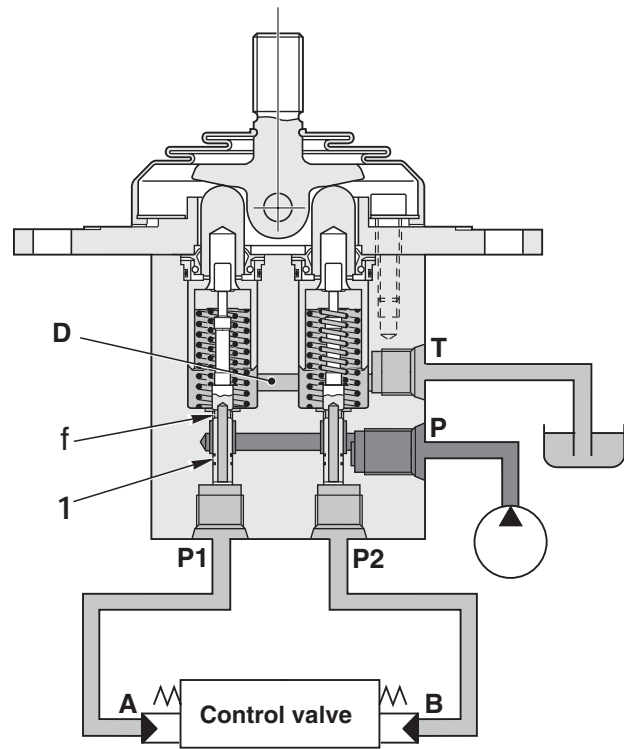

Fig. 1
Ports **A** and **B** of the control valve and ports **P1** and **P2** of the PPC valve are connected to drain chamber **D** through fine control hole **f** in spool (1). (Fig. 1)